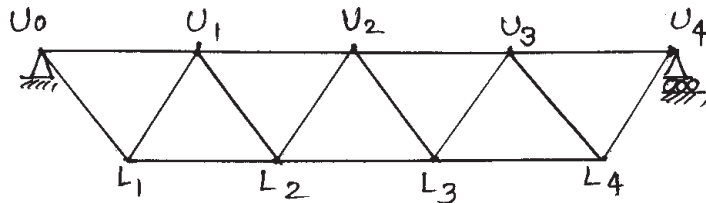

Fig. 8
- Q8)** A deck type bridge is to be used to support a single line broad gauge track. The trusses are directly under the track. Cross girders are at panel points; projected for 1.2 m outside the truss for foot way along the track. (fig 8).